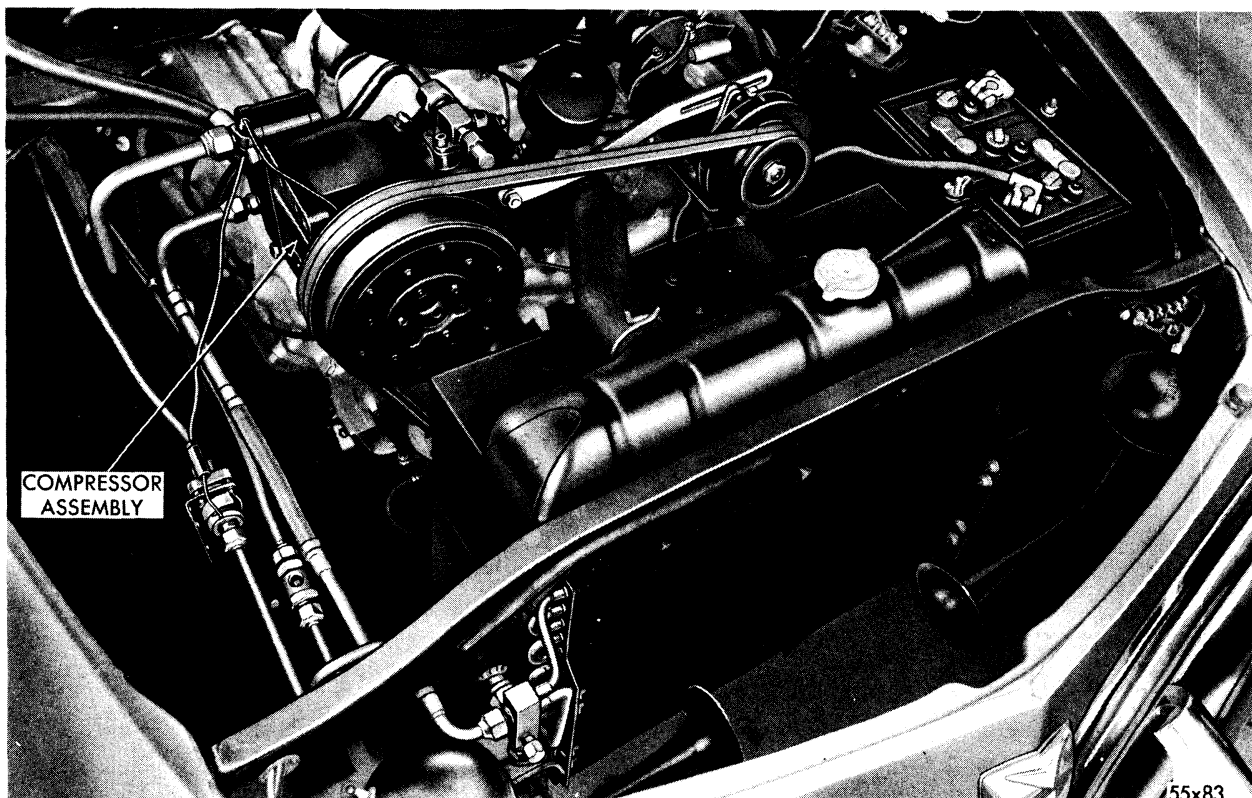

Fig. 12—Compressor Installed
- (1) Completely discharge the entire system as outlined in Paragraph 25.
- (2) Remove the drive belts and generator adjusting strap from compressor. (Refer to Fig. 12).
- (3) Disconnect the discharge and suction tube flared connectors at the compressor mufflers, shown in Figure 12.
- (4) **Always use two wrenches when disconnecting flared connections to prevent damage to flares or tubes.**
- (5) Remove the four compressor to mounting bracket bolts.
- (6) **Remove compressor and set on bench. Be careful not to damage brushes when removing or installing magnetic clutch.**
- (7) Remove clutch assembly by removing retaining bolt from end of shaft. While supporting clutch with one hand tap on the pulley with a soft hammer and remove assembly.
- (8) Remove receiver, strainer-drier unit, expansion valve and solenoid valve.
- (9) Connect jumper tubes across vacated spaces left by removal of receiver, strainer-drier unit, expansion valve and solenoid valve.
- (10) Connect a pressure pump to the suction side of the system.
- (11) Connect a hose or tube to the discharge side.
- (12) Insert hose or tube in a pail to receive flushing.
- (13) Reverse flush the system with carbon tetrachloride. At least one gallon of the solution should be pumped through the system.